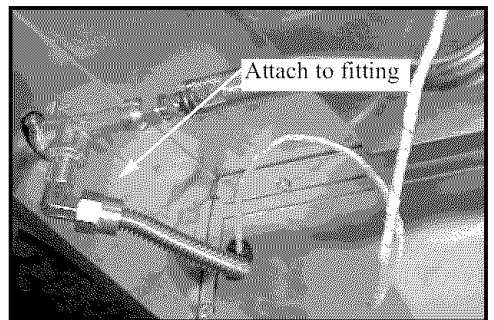

Fig. 7
2. Attach the Flex Line coming from the side of the grill to the fitting on the bottom of the Side Burner. (See Fig. 7)